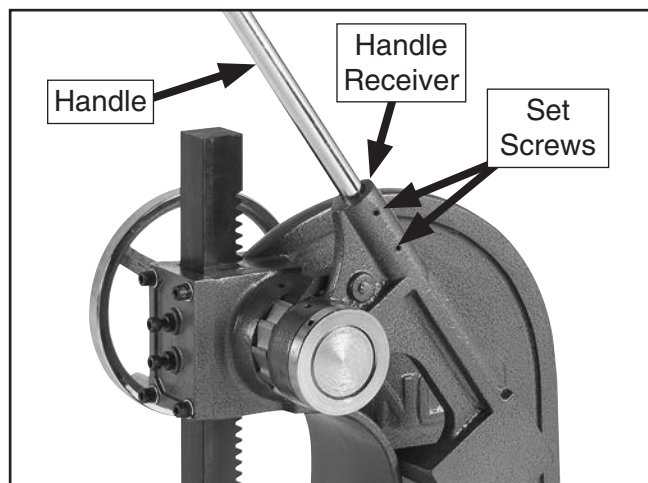

Figure 7. Handle inserted into receiver.
2. Insert handle into handle receiver (see **Figure 7**) and tighten both set screws.